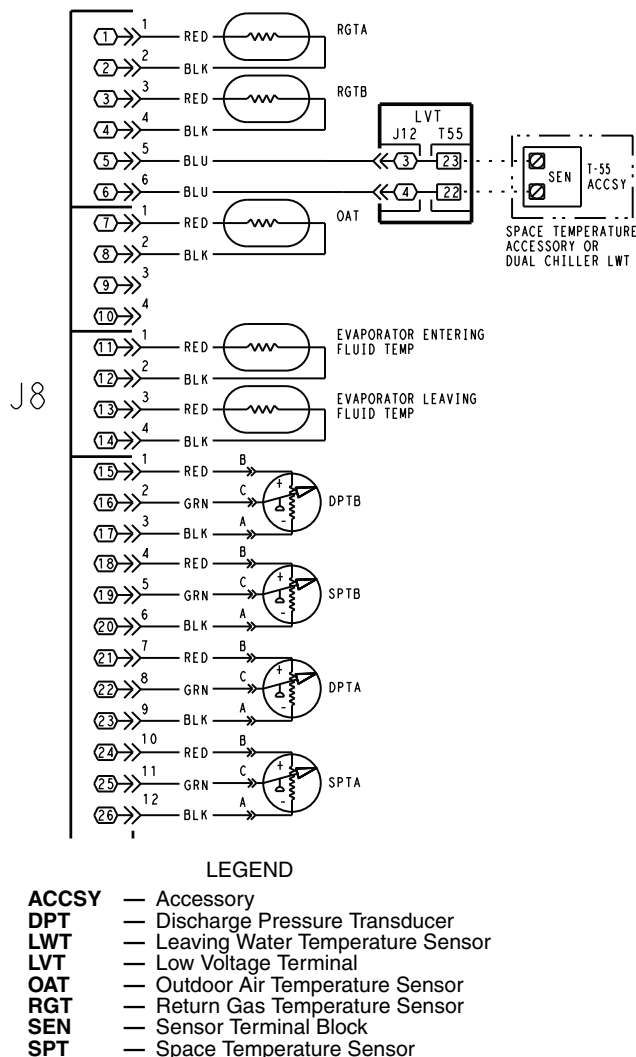

Fig. 38 — Thermistor Connections to Main Base Board, J8 Connector
1. Connect the digital voltmeter across the appropriate thermistor terminals at the J8 terminal strip on the Main Base Board (see Fig. 38).
Pressure Transducers — The suction and discharge transducers are different part numbers and can be distinguished by the color of the transducer body, suction (yellow) and discharge (red). No pressure transducer calibration is required. The transducers operate on a 5 vdc supply, which is generated by the main base board (MBB). See Fig. 38 for transducer connections to the J8 connector on the MBB.